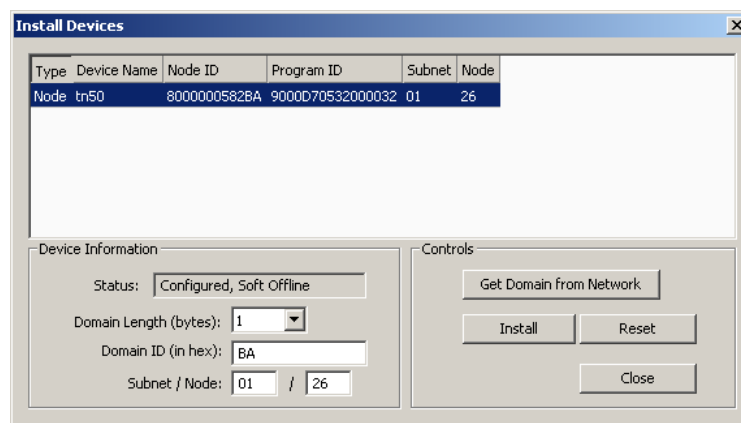

Figure 128: Install devices dialog.
- Click the **Install** button. This opens the **Install Devices** dialog as shown in Figure 128.